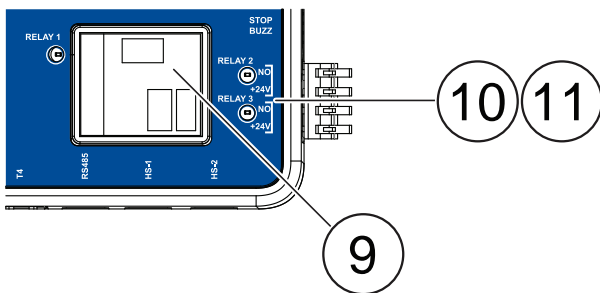

Figure 62. Relay Ports
- Relay capacity: (1) Mechanical 20A max at 240VAC (Figure 62 Item 9). (2) Solid state relays 30VDC, 2A max (Figure 62 Item 10, 11).
3. Install the relay wires in the appropriate relay port: mechanical (Relay 1) or solid state (Relay 2 and 3) (Figure 62).